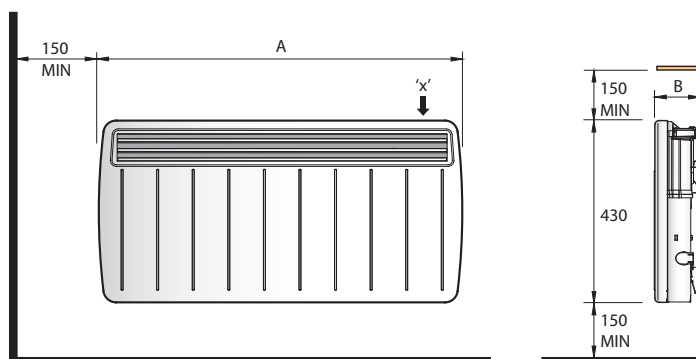

Fig. 1
**IMPORTANT** – The wall brackets supplied with the appliance must be used. The heater should be positioned observing the minimum clearances stated around the heater - see Fig. 1.